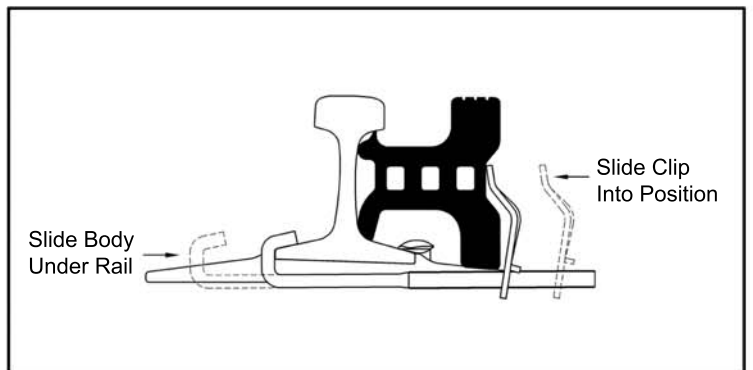

Figure 3
- 3** Slide clamp body under the rail and slide clip onto body (Fig. 3)